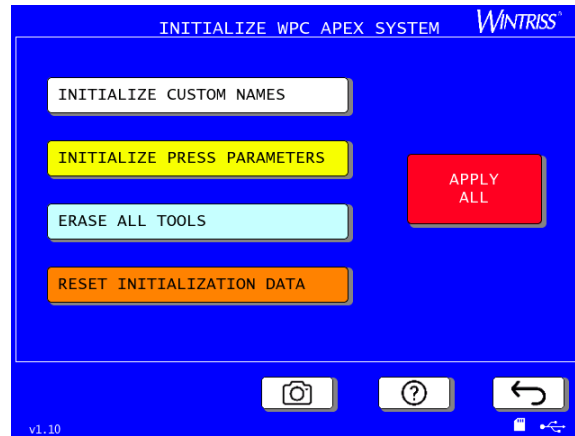

Figure 3-3. System Initialization Menu
4. Press SYSTEM INIT MENU. The Initialize WPC APEX System menu appears, Figure 3-3. Table 3-1 lists the initialization buttons and their functions.